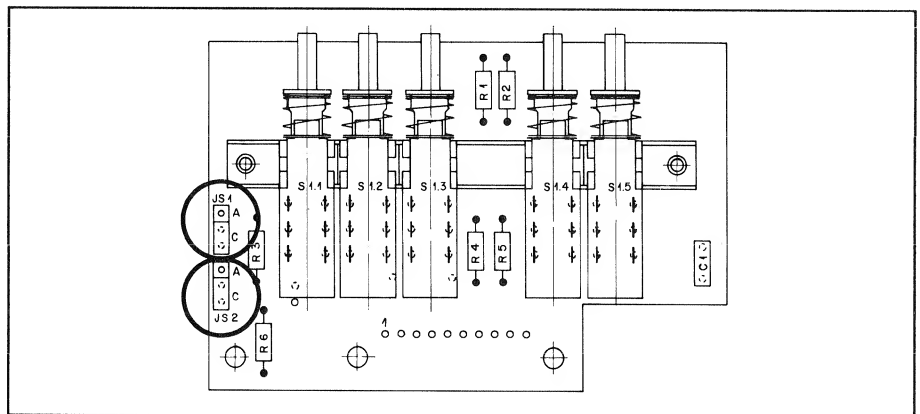

Fig. 4.9.8
- SOURCE SELECTOR BOARD (refer to Fig. 4.9.8):